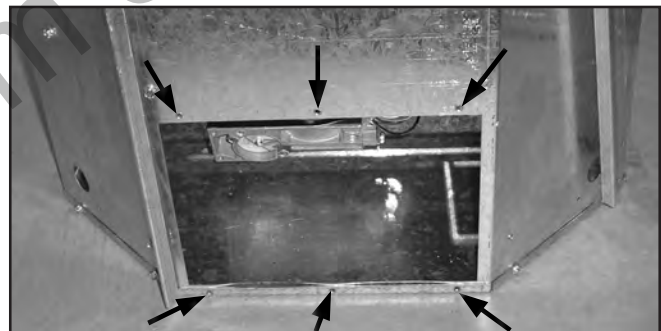

Figure 51: Removing Back Plate From Retreat.
1. Use a flat head screwdriver or a $\frac{1}{4}$ " socket to remove the six (6) screws securing the back cover (see Figure 51).